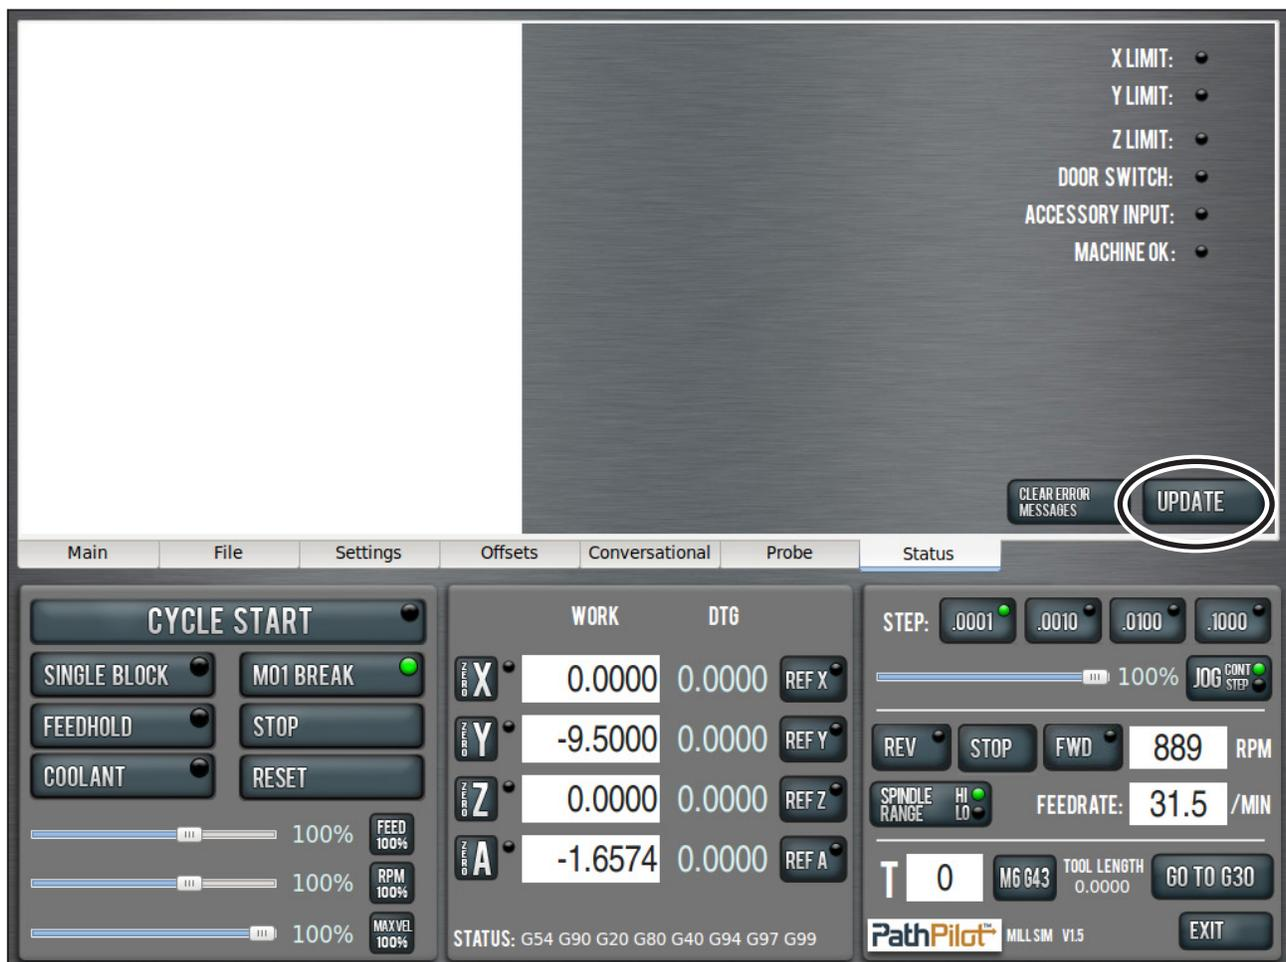

Figure 4
4. With the PathPilot controller on and out of *Reset*, click *Update* on the *Status* tab (see **Figure 4**).